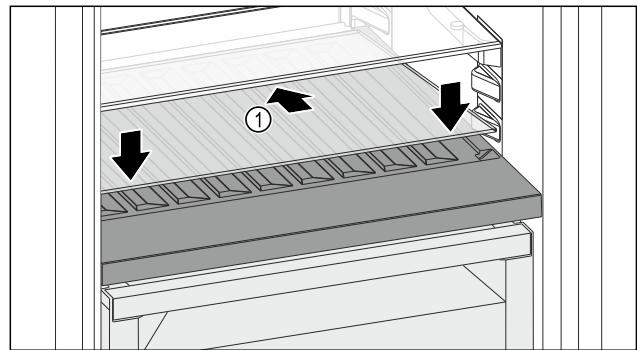

Fig. 98
- ▶ Place the glass shelf Fig. 98 (1) at an angle, sloping it downwards and backwards.
- ▶ Lower the glass shelf Fig. 98 (1) at the front.